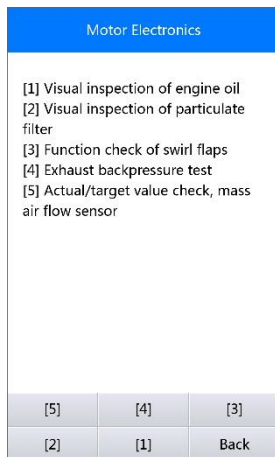

Figure 5-32 Sample Particle Filter Tests
- 1) Select [1] and **OK** button from the particle filter test menu (*Figure 5-32*).
- 1) Select **[2]** and **OK** button from the particle filter test menu (Figure 5-32).
- 1) Select **[3]** and **OK** button from the particle filter test menu (*Figure 5-32*).
- 1) Select **[4]** and **OK** button from the particle filter test menu (*Figure 5-32*).
1) Select **[5]** and **OK** button from the particle filter test menu (Figure 5-32).